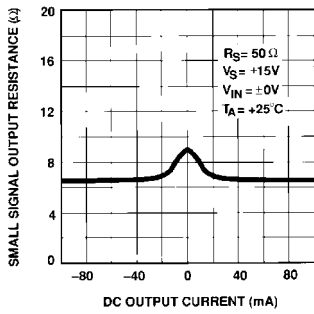
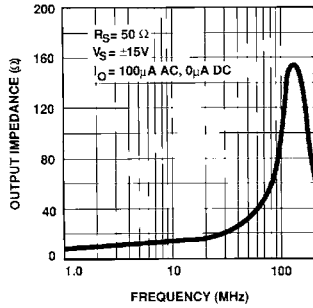

FIGURE 3. EL2002 DC OUTPUT IMPEDANCE
FIGURE 4. OUTPUT IMPEDANCE vs FREQUENCY
The ideal buffer should exhibit zero output impedance. Illustrated in Figure 3 is the DC output impedance of the EL2002 as a function of output current. As the load current increases, R_{OUT} asymptotically approaches the value of R1 or R2 (depending on which half of the circuit is working). In other words, the r_e term approaches zero as the emitter current increases per equation (4) above. Furthermore, Figure 4 illustrates the small signal output impedance of the EL2002 as a function of frequency. In this instance any impedances which exist at the base of Q3 (or Q4) is divided by the product of $\beta1*\beta4$, but as the frequency goes up, the β goes down, and the R_{OUT} increases. The dip in the output impedance above 100MHz is due to capacitance of the package and on the die.